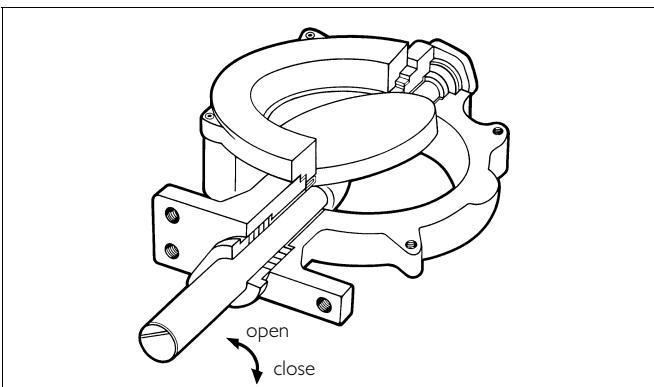

Fig. 12. The contact line between the disc and seat ring
The marking line parallel to the disc on the valve shaft head shows roughly the closed position of the disc (see Fig. 12).
- ❑ Check the position between the seat ring and the disc. The valve closes clockwise (see Fig. 12).
- ❑ Press the shafts into the disc drillings. Align the pin holes. The shaft (11) position against the disc must be according to Fig. 12.
- ❑ Install the gasket (18) and the blind flange (10). Screws of the blind flange must be tightened evenly. An unevenly tightened flange will damage the seat.
- ❑ Install the body seal (19) and the clamp ring (2). See details in Section 5.4.
- ❑ Check the contact line between the seat ring and the disc (see Fig. 12).